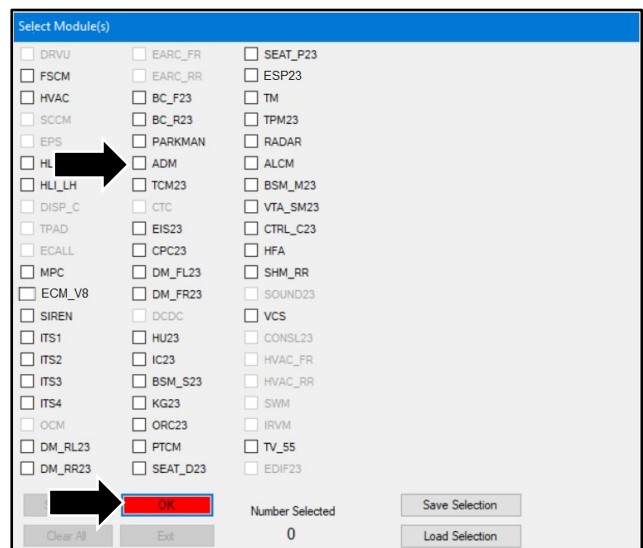

Figure 2
5. Select the "ADM" module then click "OK" (refer to Figure 2).